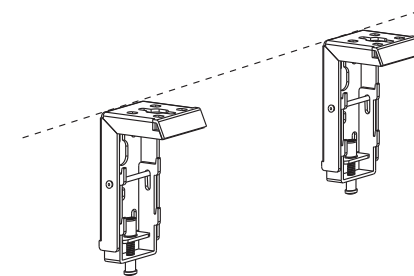

Figure 1
2. Ensure the brackets are horizontal and near the ends of the casing. Fasten to the wall or ceiling, not both. (Figure 1) .